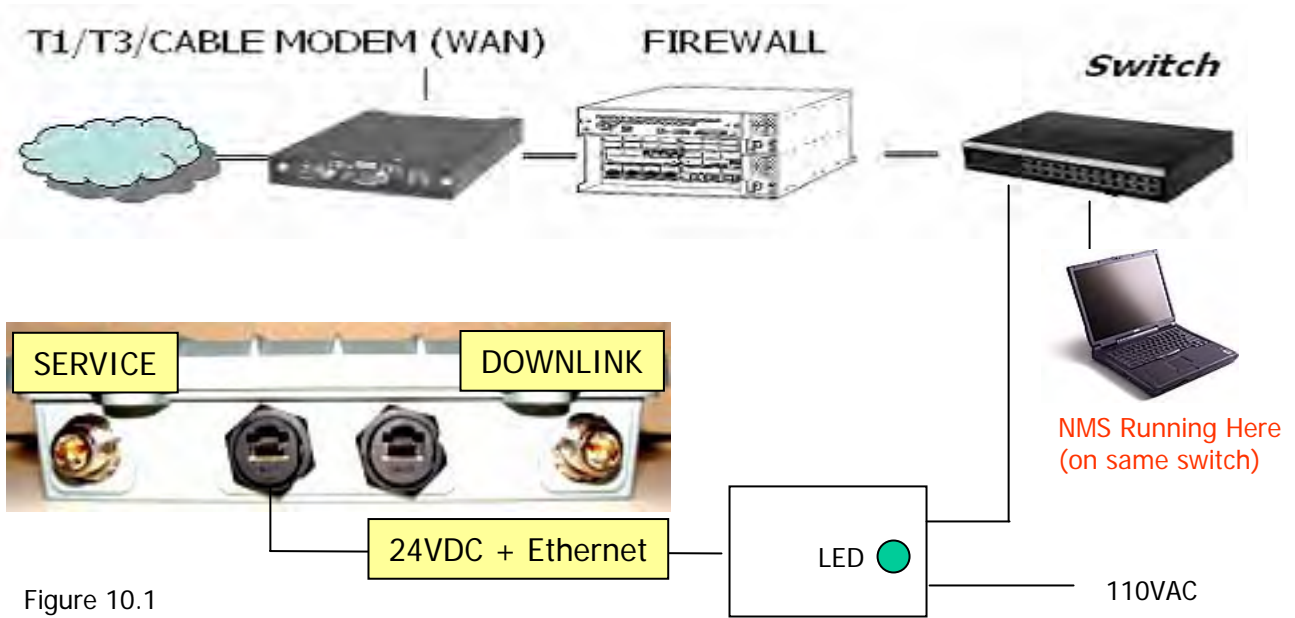

Figure 10.1
1. Mount the antennas as shown on Figure 10.1. Power up the POE injector. The LED will light up. Power up the module. The fan should start and be audible. Bring up the 802.11a/b/g wireless card utility on the laptop.